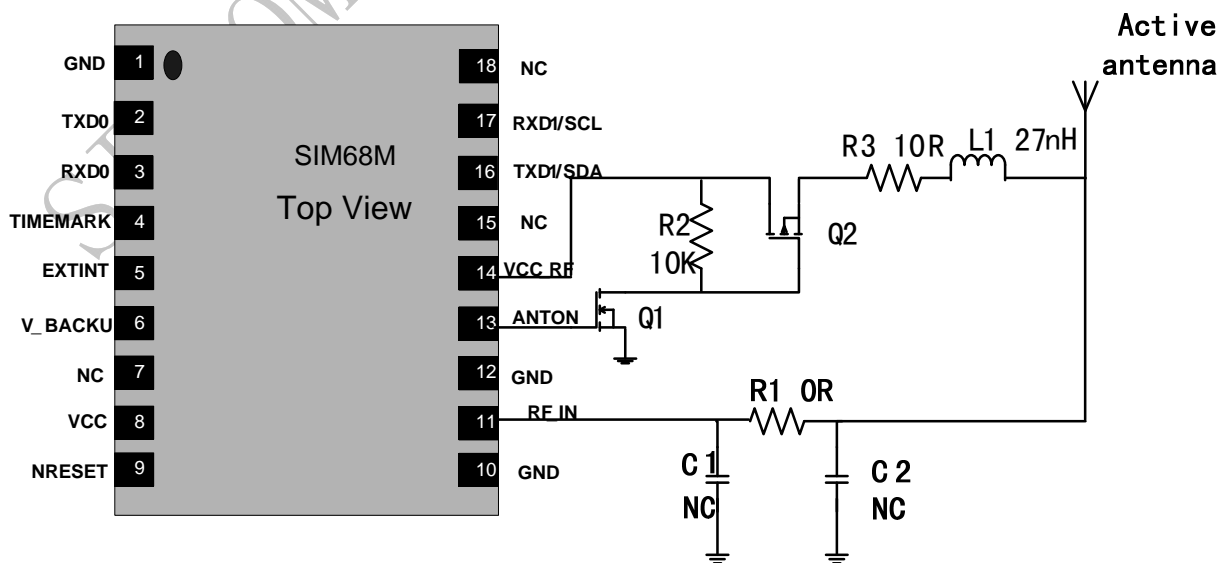

Figure 9: SIM68M Active antenna power consumption saving design
- SIM68M can also reduce power consumption by controlling the power supply of active antenna by pin 13 ANTON as shown in Figure 9. ANTON is an optional pin which can be used to control the power supply of the active antenna or the enable pin of an external LNA. When SIM68M module enters the standby mode, the ANTON pin will be pulled down, MOSFET Q1 and Q2 are in high impedance state and the power supply for antenna is cut off. In normal mode, the voltage value of ANTON is about 2.8V, it will make Q1 and Q2 in the on-state, VCC_RF will provide power supply for the active antenna. If not used, please keep ANTON pin open. For minimizing the current consumption, the value of resistor R2 should not be too small, and the recommended value is 10k ohm.